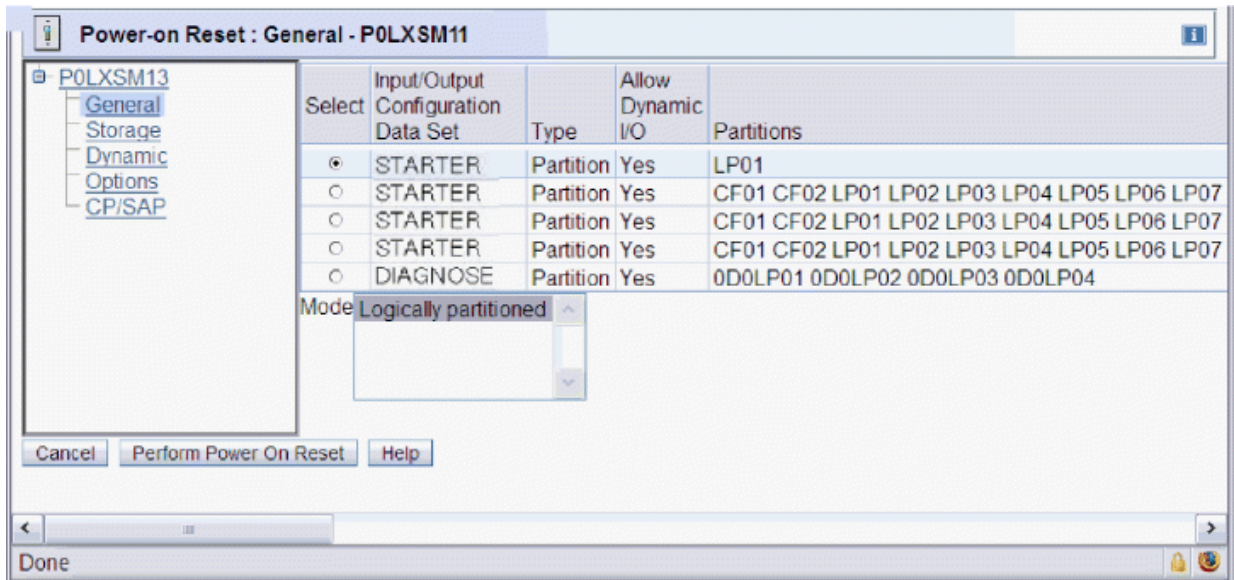

Figure 8. Power-on Reset window
- Click **Power-on Reset** to start the task. This action opens the Power-on Reset window. Figure 8 on page 7 shows this window.